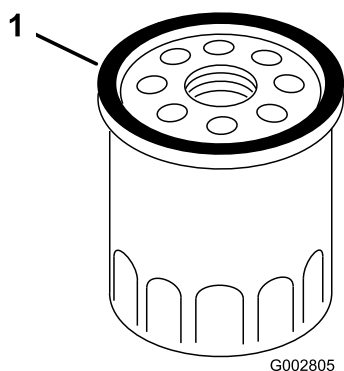

Figure 25
7. Use your finger to coat the gasket on the new filter with oil (Figure 25).